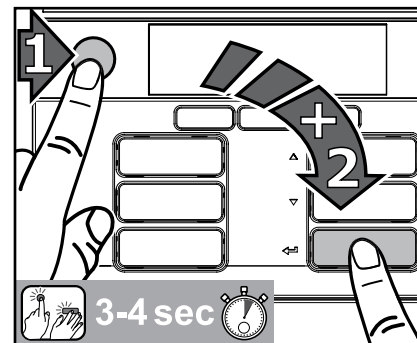

Fig. 24
1. Press first the STOP button and then the enter button  and hold them pressed simultaneously for 3-4 seconds to enter the cleaning mode (fig. 24).